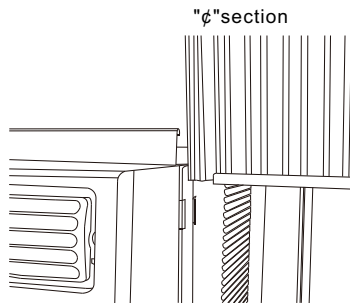

Fig.2
- B. Slide the free end "ϕ" section of the panel directly into the cabinet as shown in Fig. 2. Slide the panel down. Be sure to leave enough space to slip the top and bottom of the frame into the rails on the cabinet.